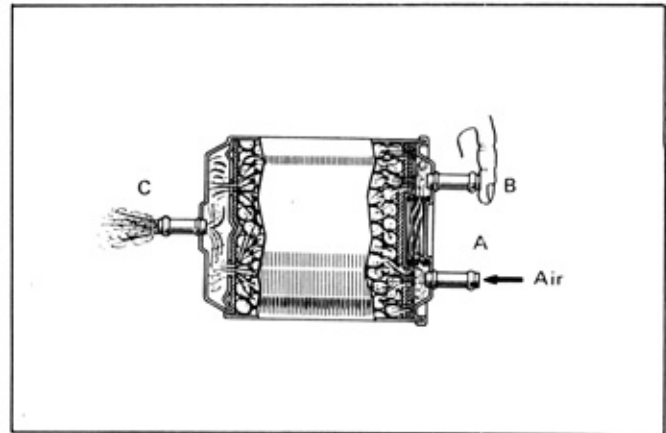

Fig. 18-49 Charcoal Canister Inspection
- (1) Disconnect the hoses from the charcoal canister.
- (2) As shown in Fig. 18-49, plug the pipe "B" with finger and blow air at 40 psi (3kg/cm²) through pipe "A". The air should come out from pipe "C" without resistance.
- (3) At this time, the activated carbon must not be blown out with the air.